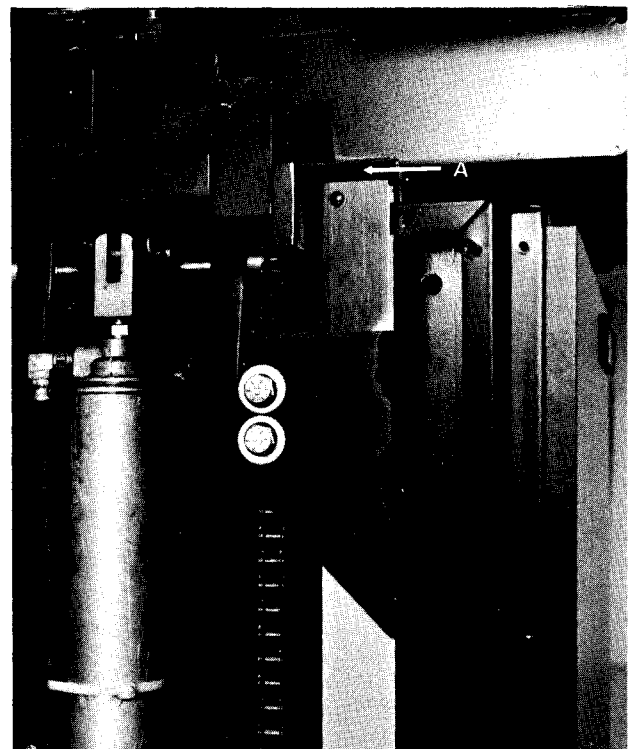

Fig. 27
21) Connect power cord and run base cylinder all the way down and adjust for small space "A" (Fig. 27) above slides (approx. 1/16" - 1/8", **NO MORE**). This is done by using the wrenching flats on the cylinder rod next to the clevis with a 3/8" open end wrench. The rod will turn easiest if the rod is extended slightly.
- 13) Run base cylinder all the way down and adjust for small space "A" Fig. 27 above slides (approximately 1/16" - 1/8" NO MORE). This is done by using the wrenching flats on the cylinder rod next to the clevis with a 3/8" open end wrench. The rod will turn easiest when it is extended about half of total extension.